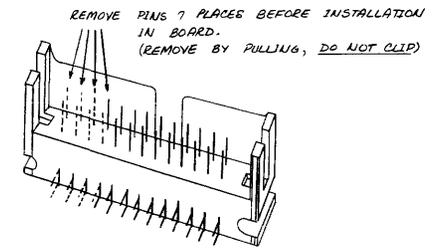

FIG 1
- 6 WHEN ASSEMBLING A 802131-02, J1 IS REPLACED WITH A 26 PIN CONNECTOR. PINS 11, 12, 13, 23, 24, 25 AND 26 ARE REMOVED COMPLETELY BEFORE INSTALLING THE CONNECTOR. SEE FIG 1.